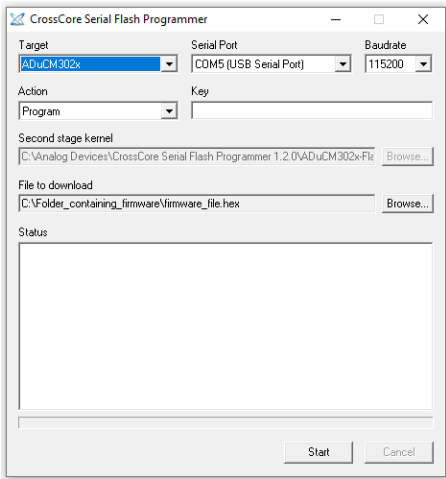

Figure 4. CrossCore Serial Flash Programmer
3. Set the programmer (see Figure 4) with the settings listed in Table 8.
4. For **File to download**, click **Browse** to download the firmware file on the PC (see Figure 4).